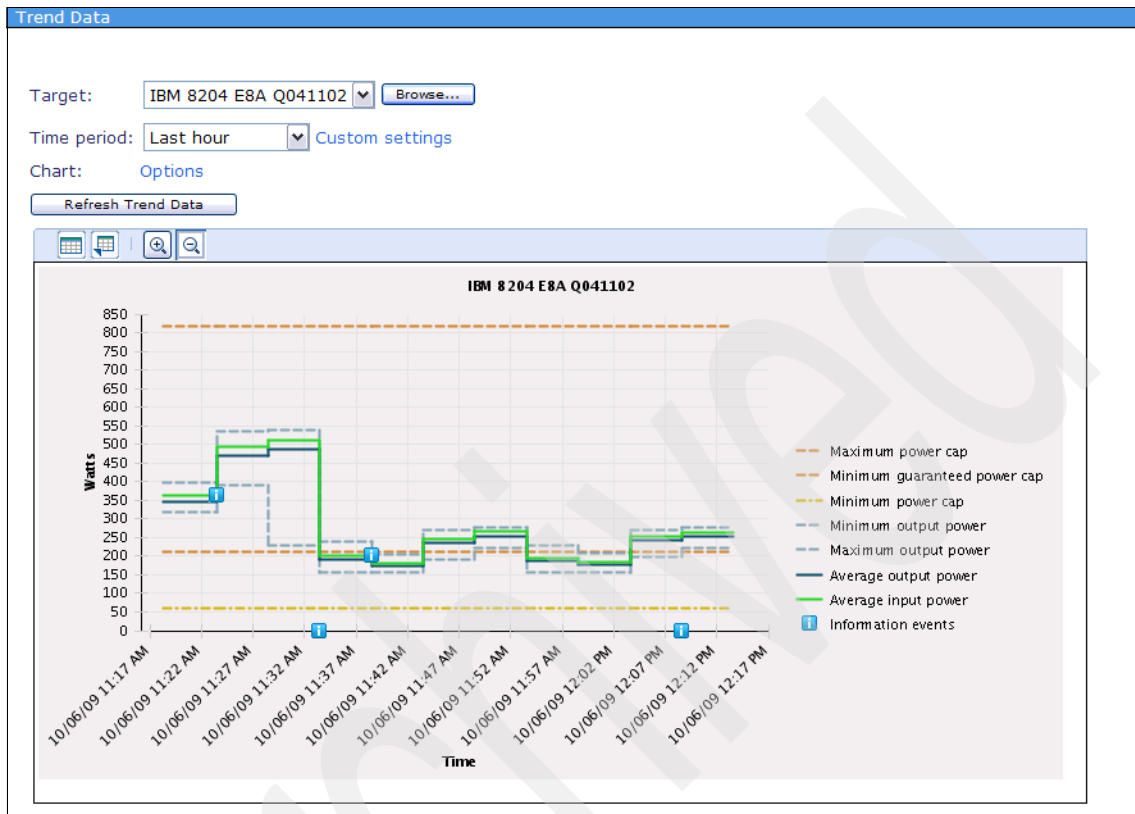
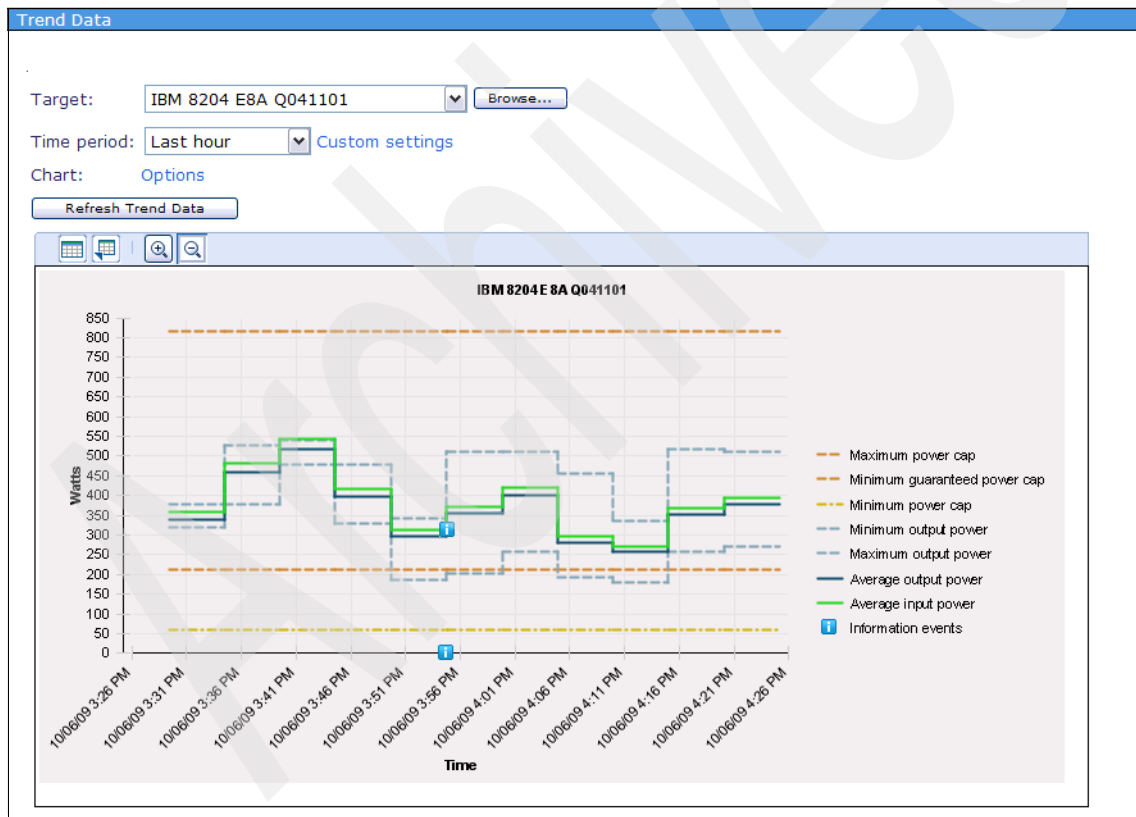
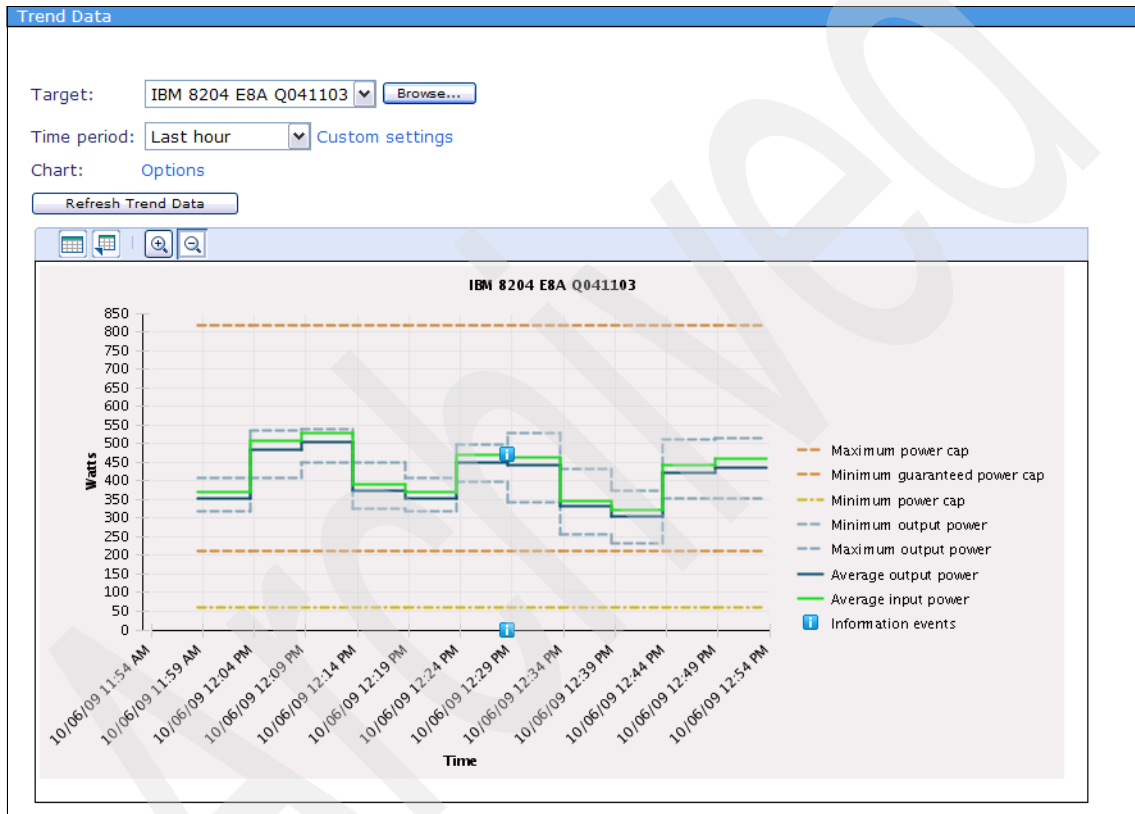

Figure 7-4 Setting static power savings - 4
Figure 7-8 Setting dynamic power savings (favor power savings) - 4
Figure 7-12 Setting dynamic power savings (favor performance) - 4
4. Over time, you see a consistent lowering of the power requirements for the managed system when static power savings is turned on (Figure 7-4).
Over time, you see a consistent lowering of the power requirements for the managed system when static power savings (favor power savings) is turned on (Figure 7-8).
Notice that the behavior is the same as for static power savings when the workload is light. You only notice a difference when the system is busy. In this case, you might see the power trending lines rise to reflect the increased requirement for processing capacity. This power trending occurs because dynamic power savings provides additional processing capacity over and above static power savings when the workload requires it but only up to 95% of the processor's nominal capacity. Compare Figure 7-8 with Figure 7-4 on page 292 to see the difference.
Over time, you see a consistent lowering of the power requirements for the managed system when static power savings (favor performance) is turned on (Figure 7-12 on page 300). Notice that the behavior is the same as for static power savings when the workload is light. You notice a difference only when the system is busy. In this case, you might see the power trending lines rise to reflect the increased requirement for processing capacity. This power trending occurs because dynamic power savings provides additional processing capacity over and above static power savings when the workload requires it.
If the system is really busy, you might even see the power graphs rise *above* previous levels (before you turned on power savings) if the Power system model supports overclocking. Compare Figure 7-12 with Figure 7-4 on page 292 and Figure 7-8 on page 296. Behavior is very similar to that shown for dynamic power savings (favor power savings), because the power curves shown in these examples are taken from a Power system that does not support overclocking.